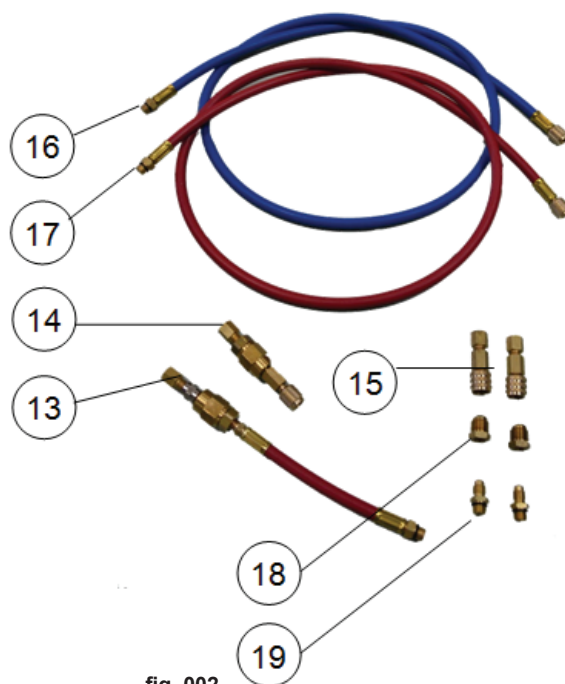
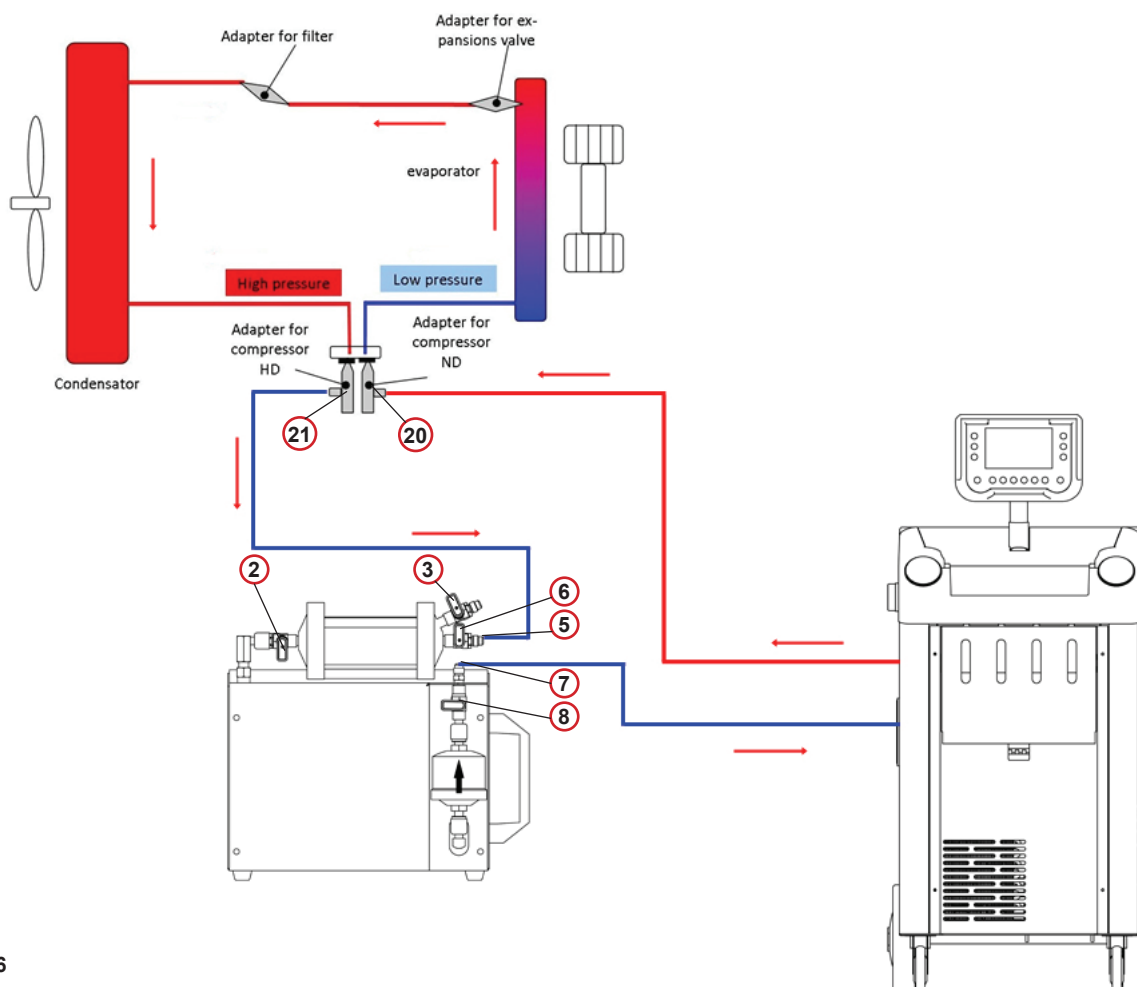

fig. 002
fig. 006
1. Connect the **red service hose (high pressure)** of the A/C service unit to the manufacturer-specific adapter of the **blue low-pressure side** of the A/C system compressor (20 fig. 006).
2. Connect the **blue service hose (low pressure)** of the A/C service unit to the filter port (7 fig. 006) of the flushing kit.
3. Connect the blue hose from the supplied flushing kit (16 fig. 002) to the connection (5).
4. Connect the other end of the **blue hose** from the flushing kit to the manufacturer-specific adapter of the **red high-pressure side** of the A/C system compressor (21).
5. Open the valves (2, 6) and (8) and make sure the valve (3 fig. 006) is closed.
10. At the end of the flushing operation you can remove and dispose of possible oil or solid particle residues with the aid of the discharge valve (3) from the inspector sight glass.
2. Screw the adapter **13** from the supplied flushing kit *fig. 002* on the red service hose (high pressure) and then screw the high-pressure quick-release coupling on the adapter **13** (or 3/8" SAE adapter).
5. Connect the adapter **14** from the supplied flushing kit *fig. 002* to the blue service hose (low pressure) of the A/C service unit.
7. Connect the blue hose **16** from the supplied flushing kit *fig. 002* to the connection **5** of flushing kit.
14. At the end of the flushing operation you can drain and dispose of possible oil or solid particle residues with the aid of the discharge valve ③ from the inspector sight glass.